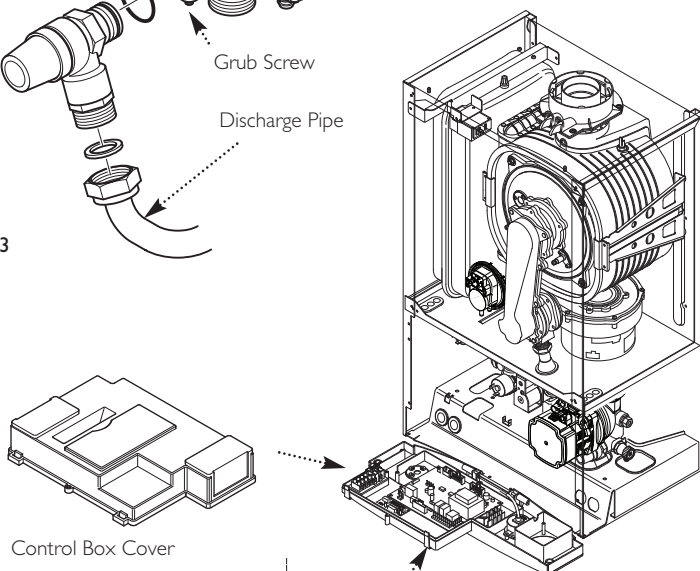

Fig. 64
13.19 P.C.B. (Fig. 64)
13.20 Pump P.C.B. (Figs. 64 & 65)
2. Completely undo the screws securing the control box cover and release the cover retaining barbs from their slots. Disengage the rear of the cover from the control box hinge pin (Fig. 64).